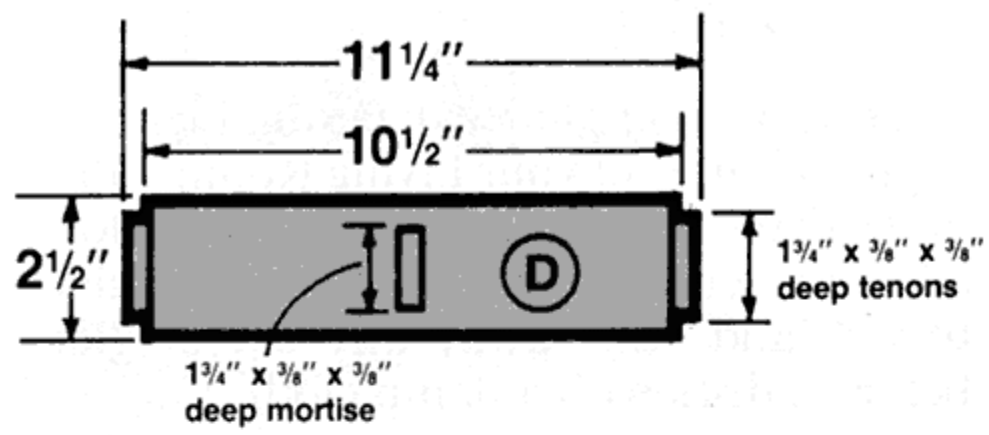

Figure 4
11: Assemble the Stand as shown in Fig. 4 using 1-1/2" x #6 wood screws. Cover the screw heads with 3/8" screw plugs or buttons.
6: Cut the 1-3/4" x 3/8" x 3/8" mortises and tenons in the Bottom Ends (D), as shown in **Fig. 4.**